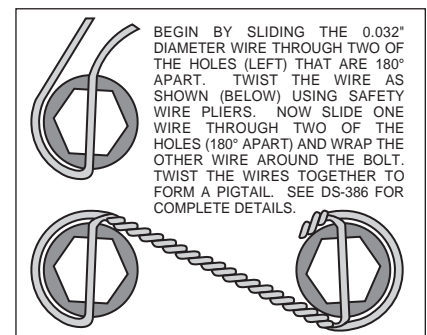

Figure 4. Safety Wire Diagram
- Slide the bracket kit assembly (1) onto the housing flange and then insert the axle assembly through the center hole of the bracket kit assembly (1). Secure using the stock Original Equipment Manufacturer (OEM) bolts and nuts. Stock OEM hex nuts that retain the bracket kit assembly (1) should be on the wheel side of the bracket. Apply red *Loctite*® 271 to the stock OEM bolt threads and torque to OEM specifications. Make sure the bracket kit assembly (1) brake pads are FACING OUTWARD TOWARDS THE WHEEL.
- With the larger I.D. side of the rotor (3) facing away from the hat (2), bolt rotor (3) to hat (2) through the backside of the rotor using washers (4) and bolts (5). Using an alternating sequence, apply red *Loctite*® 271 to the threads and torque bolts to 155 in-lb. For an added measure of security, the bolts may be safety wired using standard 0.032 inch diameter stainless steel safety wire as shown in Figure 4.